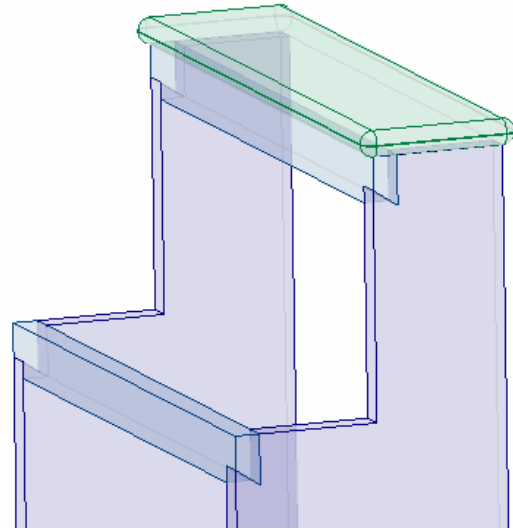

Figure 24. Top step installed.
48. Select the top step and orient it near the top of the sides. Use edge select, select one of the outside edges of the top and a corresponding outside edge of the step end. Do not select the outside of the round. Use Center Axis to constrain the step to both directions so the step fits exactly on top of the sides. Figure 24 shows the step installed.